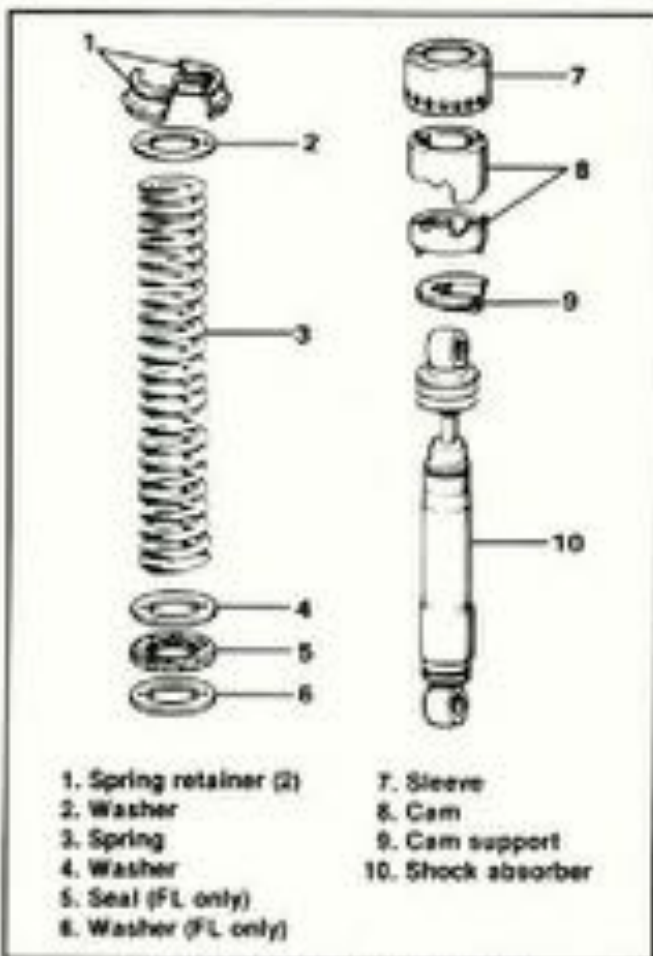

Figure 2-83. Rear Shock Absorber
2. Compress the shock and remove the spring retainers (1, Figure 2-83).
3. See Figure 2-83. Remove the shock from the compressor and disassemble the upper washer (2), spring (3) and lower washer (4).
1. See Figure 2-83. Install the cam support (9), cam (8) and sleeve (7). Coat these parts with an all-purpose grease before assembly.
2. Install the lower washer (4), spring (3) and upper washer (2).
3. See Figure 2-83. Place the shock, cam side down, in the SHOCK COMPRESSOR. Compress the shock and install the spring retainers (1).